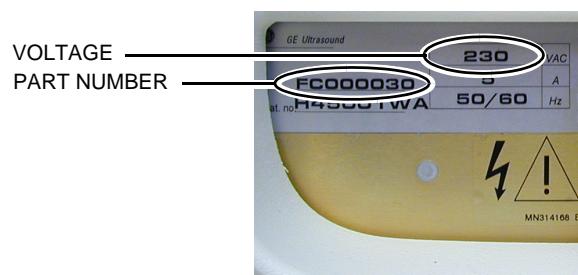

Figure 8-80 Rear of System: Voltage and Part Number
- a.) Locate the correct label (sticker). See the information you recorded earlier (below Figure 8-80 "Rear of System: Voltage and Part Number" on page 8-83).